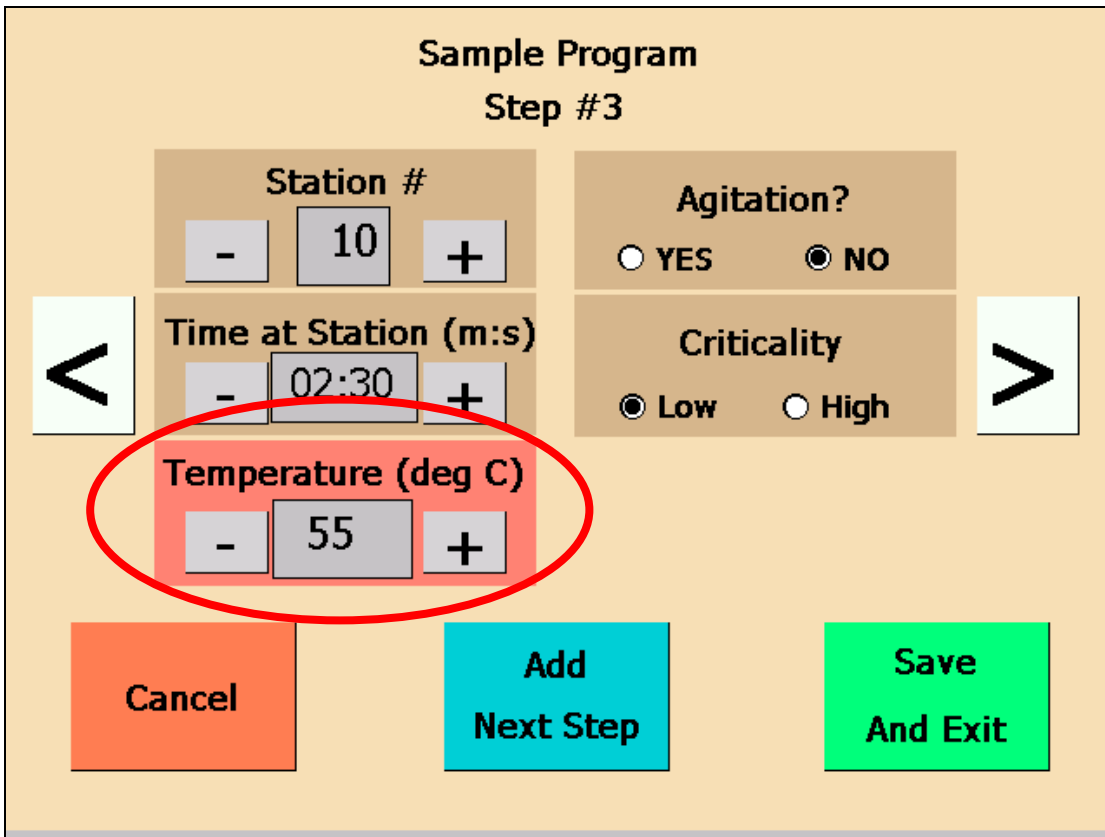

Figure 0-5: Heating Station Step Setting
13. The temperature can be programmed under “Temperature (deg C)” for processes that take place at Heating Stations 10 and 20 (See Figure 0-5). Temperature refers to the temperature of air located in the station vessel. The programmed temperature can be incremented or decremented by pressing the  and  buttons until the desired temperature is displayed. The temperature is programmed as degrees Celsius and ranges from 40 to 70.